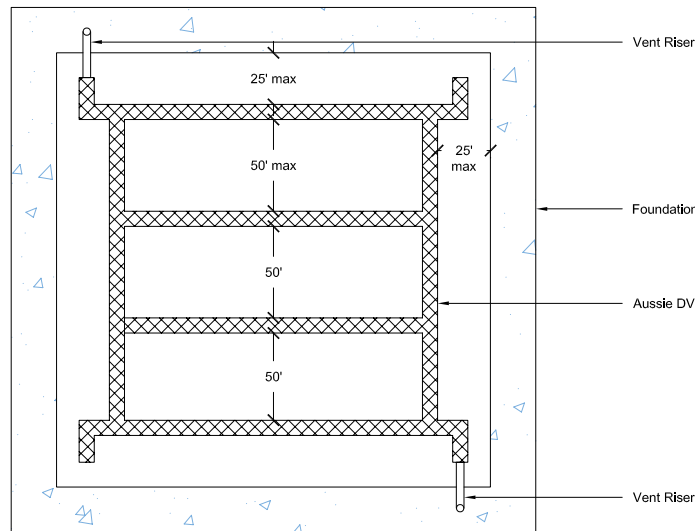

FIGURE 4.1 – AUSSIE DV VENT LAYOUT – PLAN VIEW
**AVM Aussie DV:** The AVM Aussie DV is an accessory product that is specifically used for gas ventilation. It is a modular gas collection system consisting of a 3-D, high-flow, venting core which is wrapped with a non-woven filter fabric. It also includes special connectors for use in conjunction with active/passive gas venting system. It is installed directly on the sub-grade eliminating trenching. It has a larger opening area per linear foot compared to pipe allowing for higher ventilation efficiency. It is also placed closer to the vapor barrier for more effective venting. The Vent layout in the foundation slab is shown below in **Figure 4.1**. Spacing can vary depending on project specific design and contamination levels.